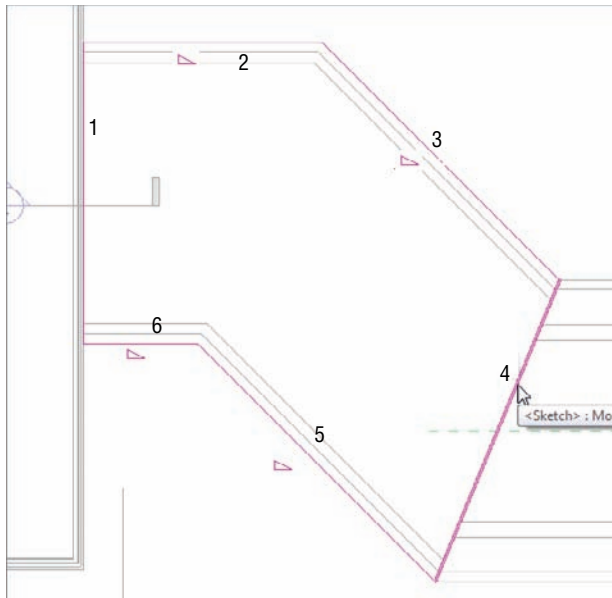

FIGURE 7.29 The new outline of the second roof
8. On your own, sketch the roof shown in Figure 7.29. Make sure the lines along the walls are defining a slope. The lines that represent the ends of the roof do not slope.
10. Review Figure 7.29 to see if your sketch matches. You should have six lines total, and the right and the left ends should not have a slope.